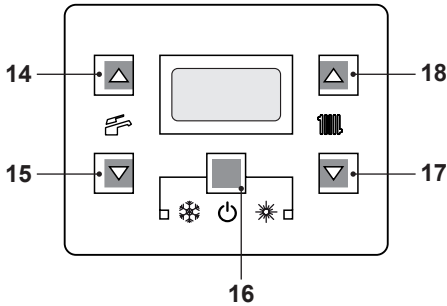

Fig. 7.10
- Press the 16 key for 2 seconds until both  and  symbols appear on the display Fig. 7.10.
- Switch off the boiler by pressing the 16 (Fig. 7.10) key for 2 seconds until the  symbol appears on the LCD display (Fig. 7.9).
Press the reset key on the boiler control panel 16 (Fig. 7.10) to reset its functioning.